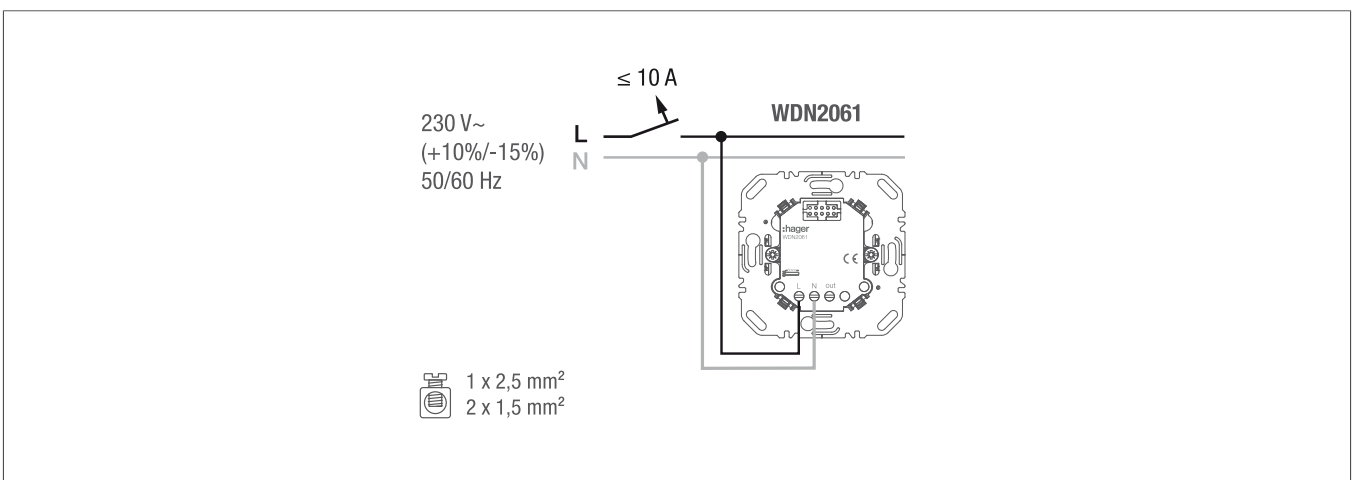

Fig. 2: Connection diagram — Use as power supply module for connected application module
- 1 Connect the device according to the connection diagram (Figure 2 or 3).